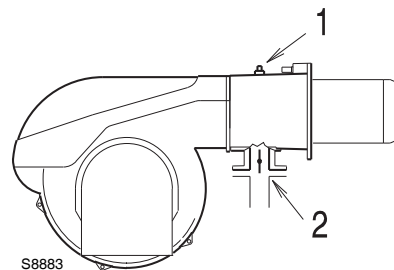

Fig. 25
Gas pressure measured at test point 1)(Fig. 25), with:
Pressure loss at gas butterfly valve 2)(Fig. 25) with maximum opening: 90°.
- subtract the combustion chamber pressure from the gas pressure measured at test point 1)(Fig. 25).
- Gas pressure at test point 1)(Fig. 25) = 24.0 mbar
To calculate the required gas pressure at test point 1)(Fig. 25), set the maximum output required from the burner operation:
- Read off the pressure at test point 1)(Fig. 25) on the right in column 1.
pressure required at test point 1)(Fig. 25).